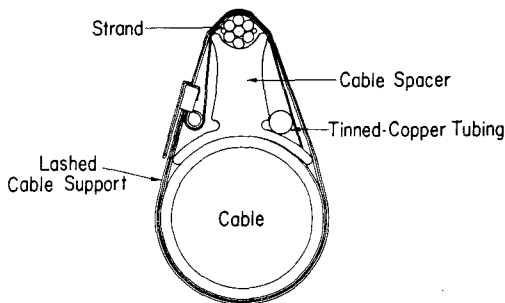

Fig. 11—Supporting Tinned-Copper Tubing
5.07 The tinned copper tubing extending from the contactor to its terminating point on the lead sleeve should be supported at each lashed cable support, using the method shown in Fig. 11.